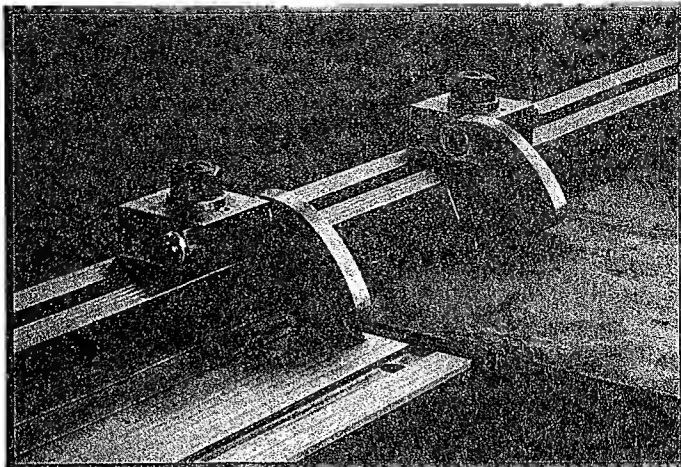

FIGURE 32
3. One swinging stop is furnished with the standard squaring arm on 25 Series shears and smaller. Additional swinging stops can be used (Figure 32), providing rapid gaging from the squaring arm. The sheets slip under stops not in use.